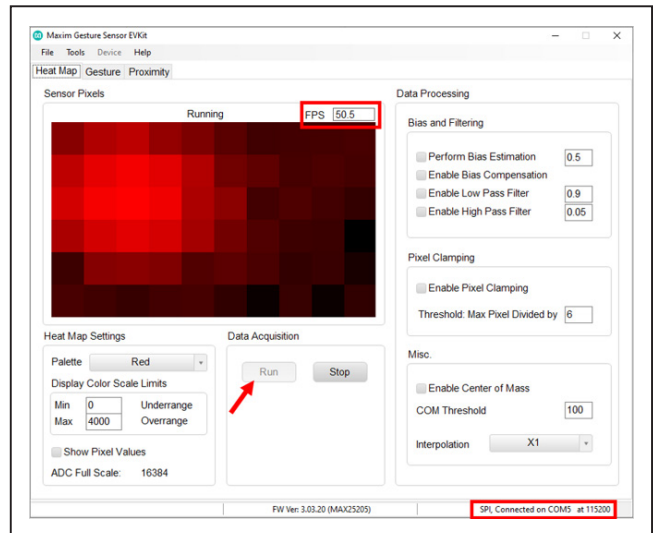

Figure 3. Heat Map Tab
- 6) Click on the **Run** button to activate the heat map. The frames-per-second (FPS) should report a non-zero value (depending on device configuration; see Figure 3). Click **Stop** when finished viewing. Now that the EV kit is operating, proceed to evaluate gesture performance.